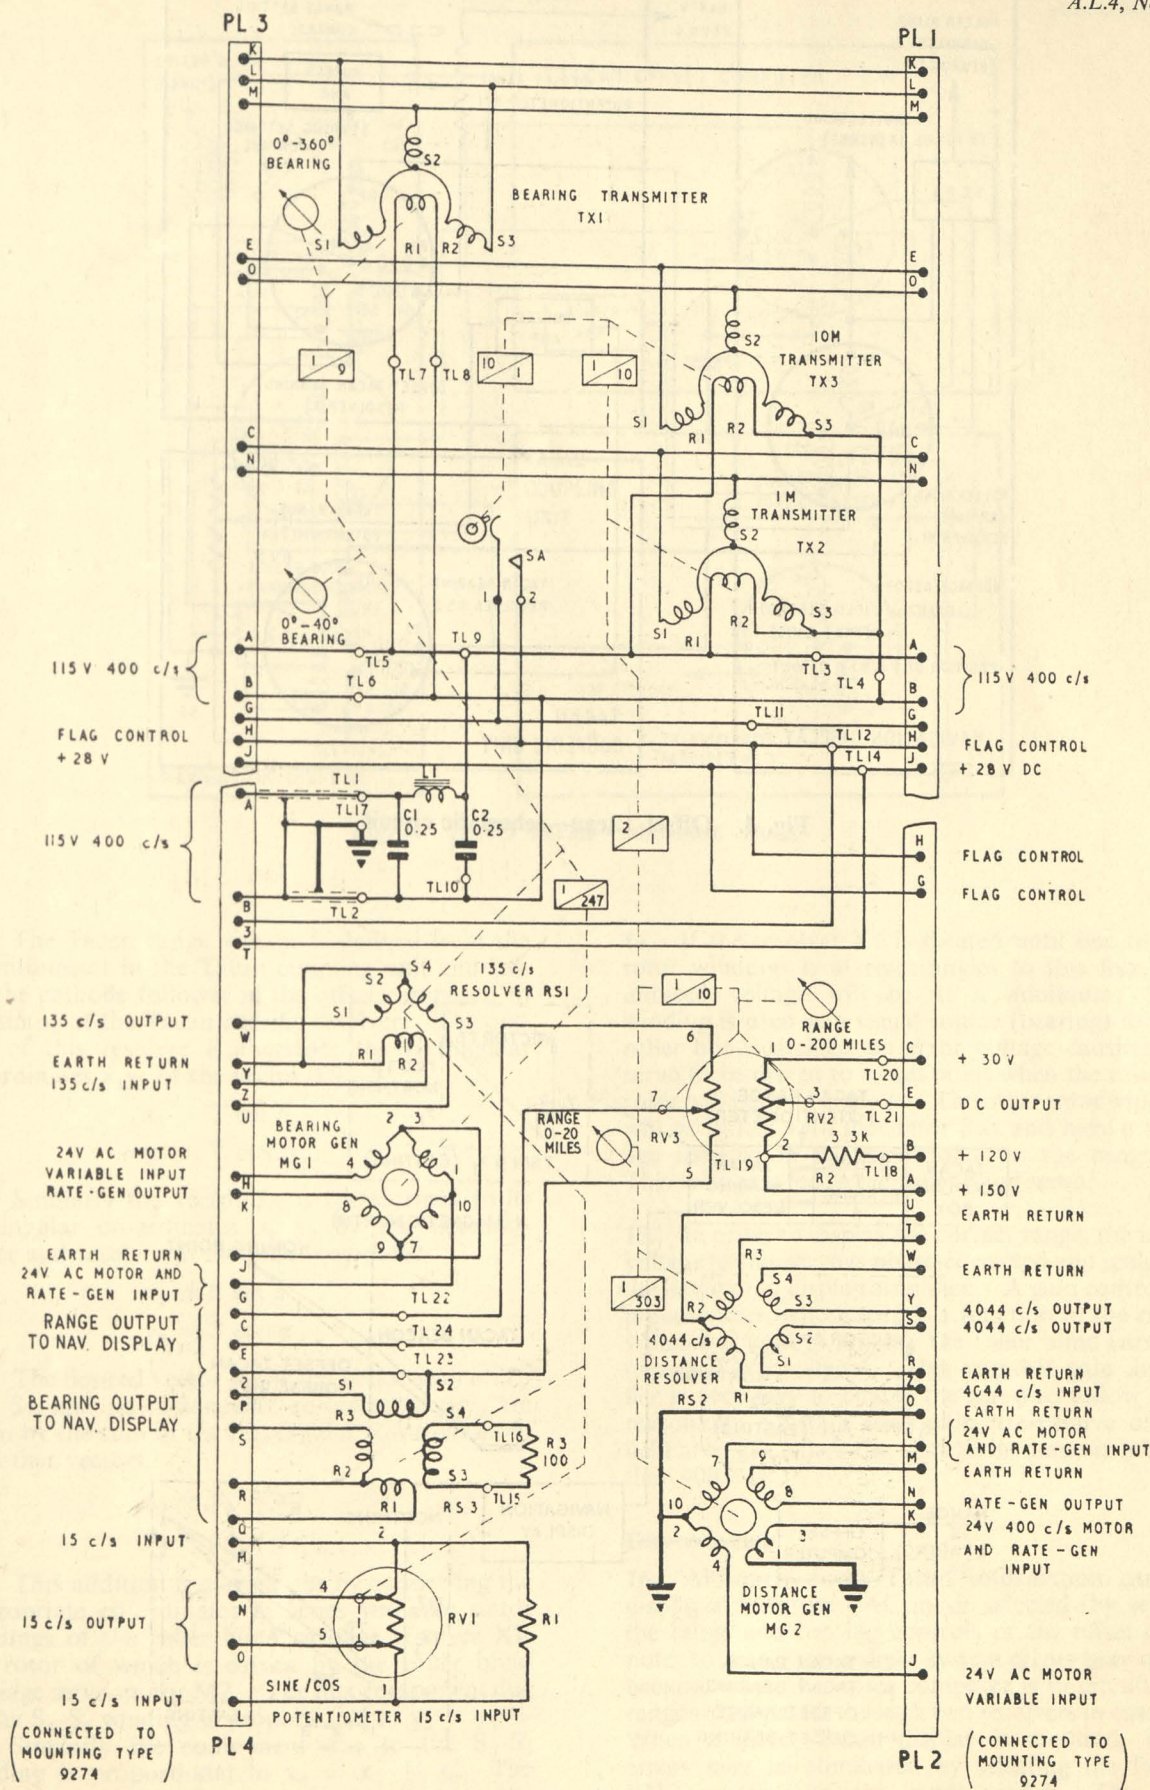

Fig. 3. Tacan coupling (indicator) unit, Type 11920—circuit
2. The Tacan information which is presented on the navigation display, is shown when either TAC or DL is selected on the mode switch. A typical presentation is shown in fig. 1. Referring to fig. 3 of Chap. 1 of this section, it may be seen that the portion of the roller blind which indicates the range of the aircraft from the beacon consists of a series of concentric arcs which are spaced at 20 nautical mile intervals. A line which bisects these arcs, indicates the bearing of the aircraft when read against the compass card. The range is repeated, to the nearest nautical mile, on the range counter at the top left of the navigation display.
3. Tacan bearing and range information from the aircraft Tacan radio installation is fed, via a coupling (indicator) unit, Type 11920, to the navigation display system. The coupling unit (fig. 3) is provided with a bearing resolver RS3 and range potentiometer RV3 for this purpose. The coupling unit range and bearing dials, used when setting up the equipment, are also shown schematically in fig. 3.